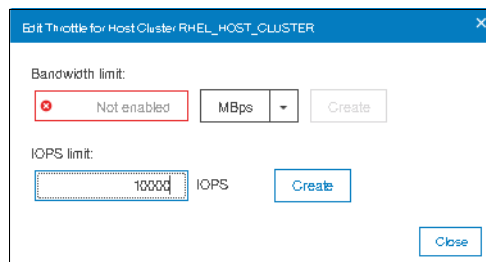

Figure 5-119 Setting IOPS throttle
- Input the desired type of I/O throttle, either IOPS or Bandwidth. In our example we set up IOPS throttle by entering the **IOPS limit** as shown in Figure 5-119.